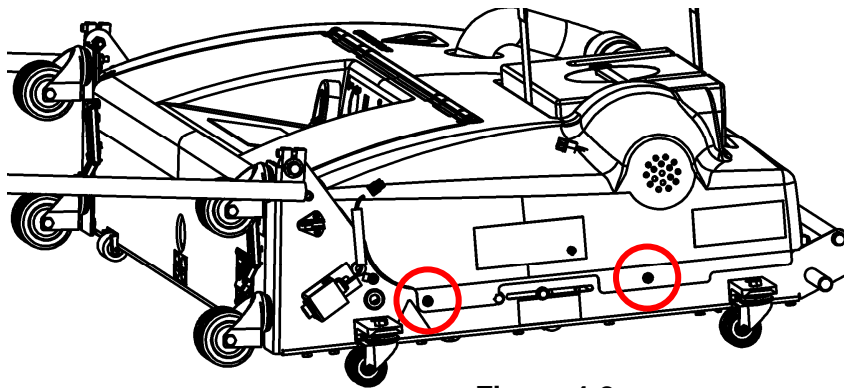

Figure 4-2
1. Unlatch the oil compartment door latches, disconnect the vacuum hose and remove the waste tank, remove the cap from the cleaner tank, remove the two screws from each side of the hood (see Figure 4-2), and lift the hood from the frame. Set the screws aside.